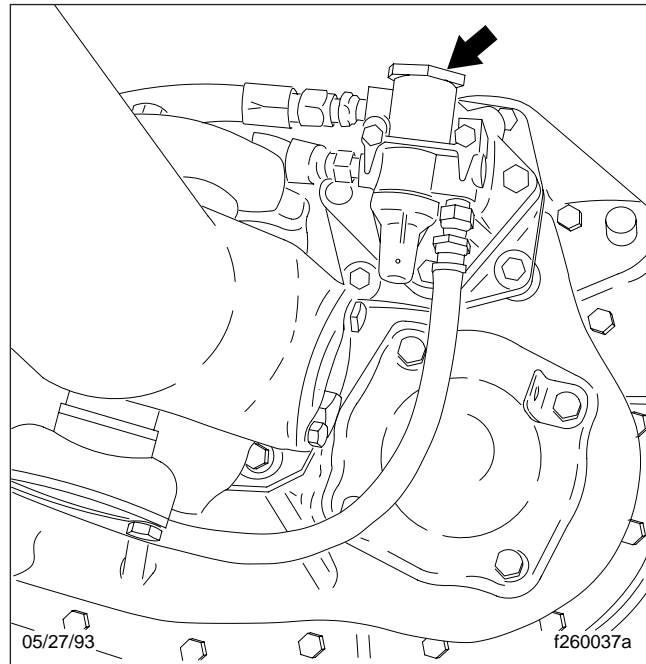

Fig. 9, Air Filter/Regulator Location (Fuller transmission shown)
2. Clean the outside of the air filter/regulator with cleaning solvent, then let it air dry. See **Fig. 9**.